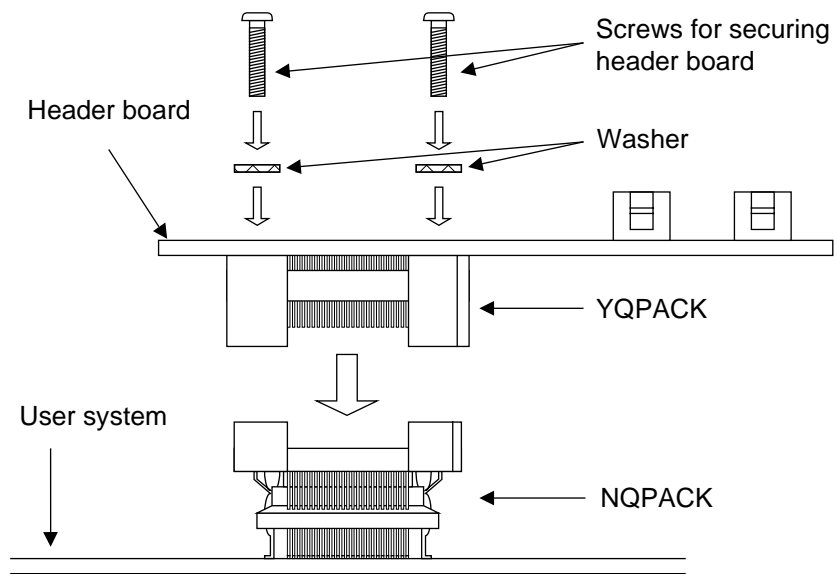

Figure 4 Header board connection
2. Insert each screw for securing header board in each of the four drilled holes on the header board(See Figure 4).